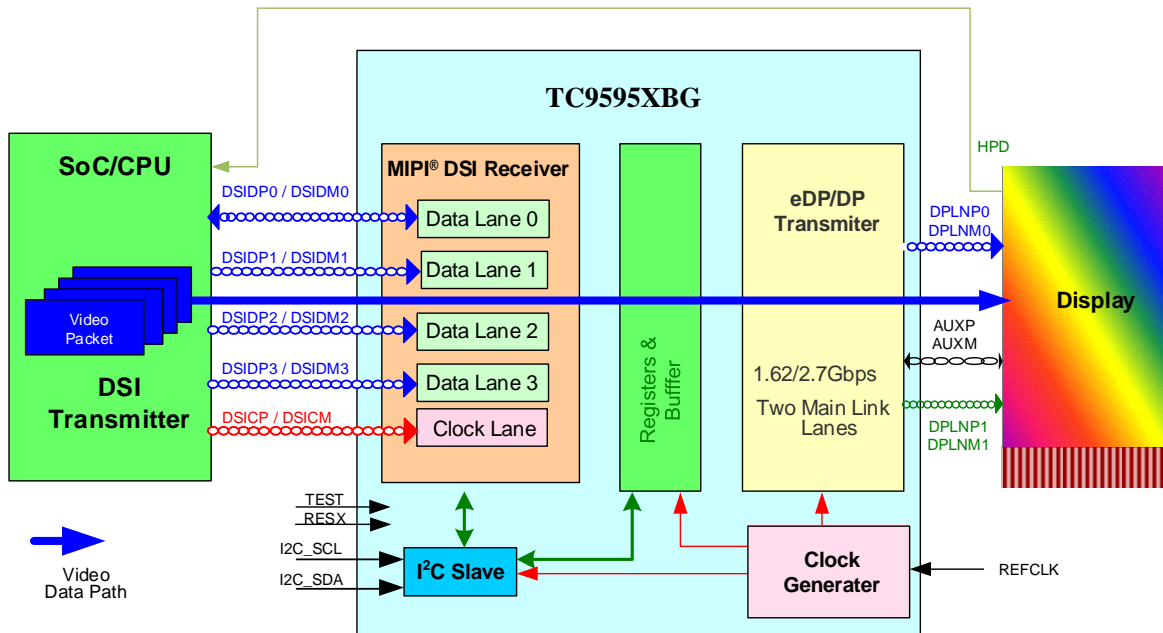

Figure 1.1 System Overview with TC9595XBG in MODE_S21 Configuration
- Mode_S21: A system configuration where TC9595XBG may typically be used is shown in Figure 1.1. In this configuration, the TC9595XBG can support displays with resolution up to WUXGA (1920×1200) at 24bit, 60 fps or WUXGA (1920×1200) at 18bit, 60 fps. Video stream source is from DSI Host.